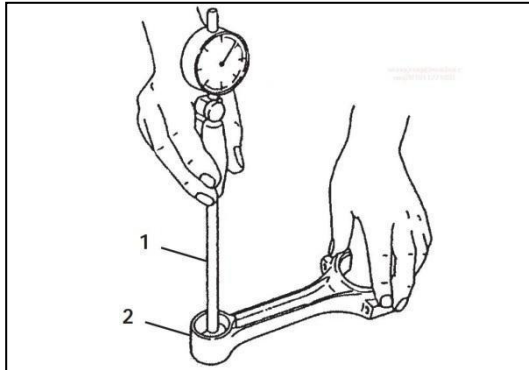

Figure 120
1. Measure the piston pin bushing bore using a bore gauge (Figure 120, 1). Replace the bushing if not within specifications. If the bushing has been removed, measure the inside diameter of the connecting rod small end (Figure 120, 2). See Connecting Rod mechanical specifications.